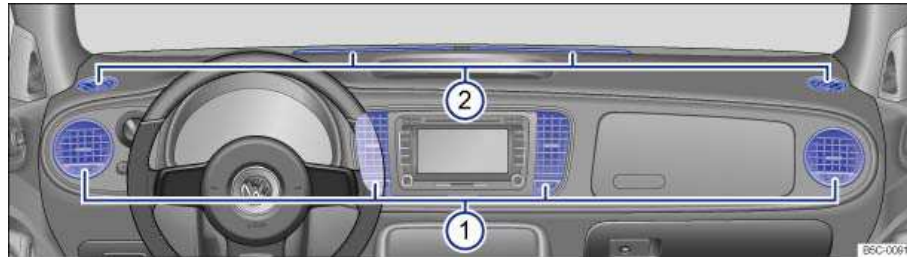

Fig. 133 In the instrument panel: Air vents.
To help ensure sufficient heating, cooling and ventilation in the passenger compartment, never close the air vents completely ⇒ fig. 133 (1).